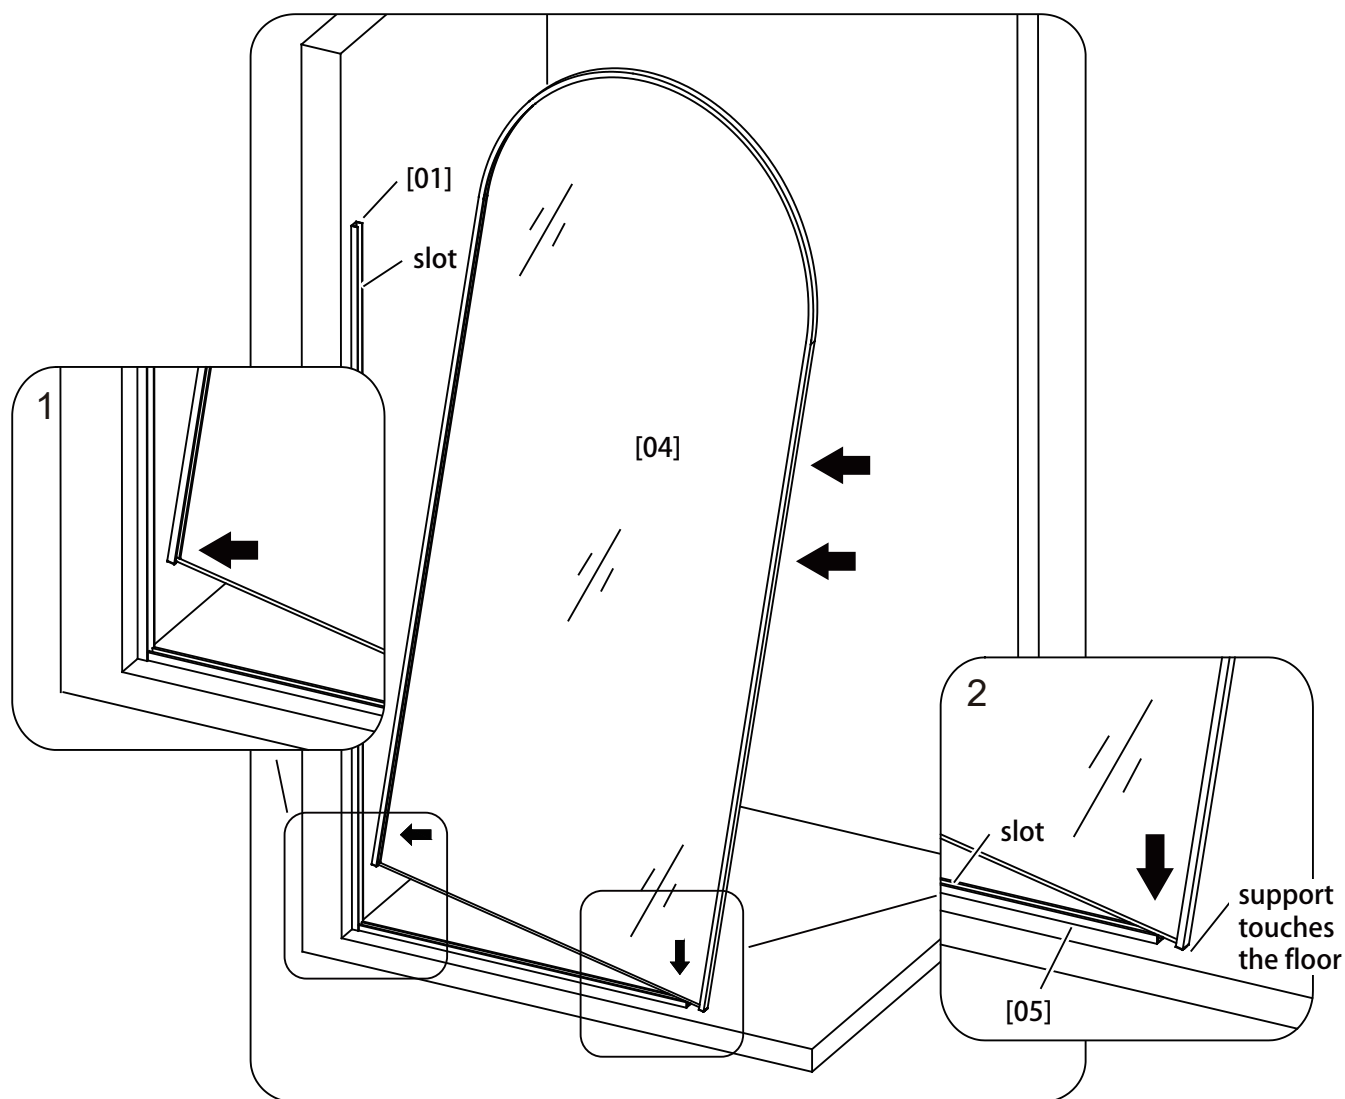

Fig 3
3. Push the **Shower Panel [04]** further into the **slot of the Wall Jamb [01]** until it reaches a stopping point. (Refer to Fig. 3)